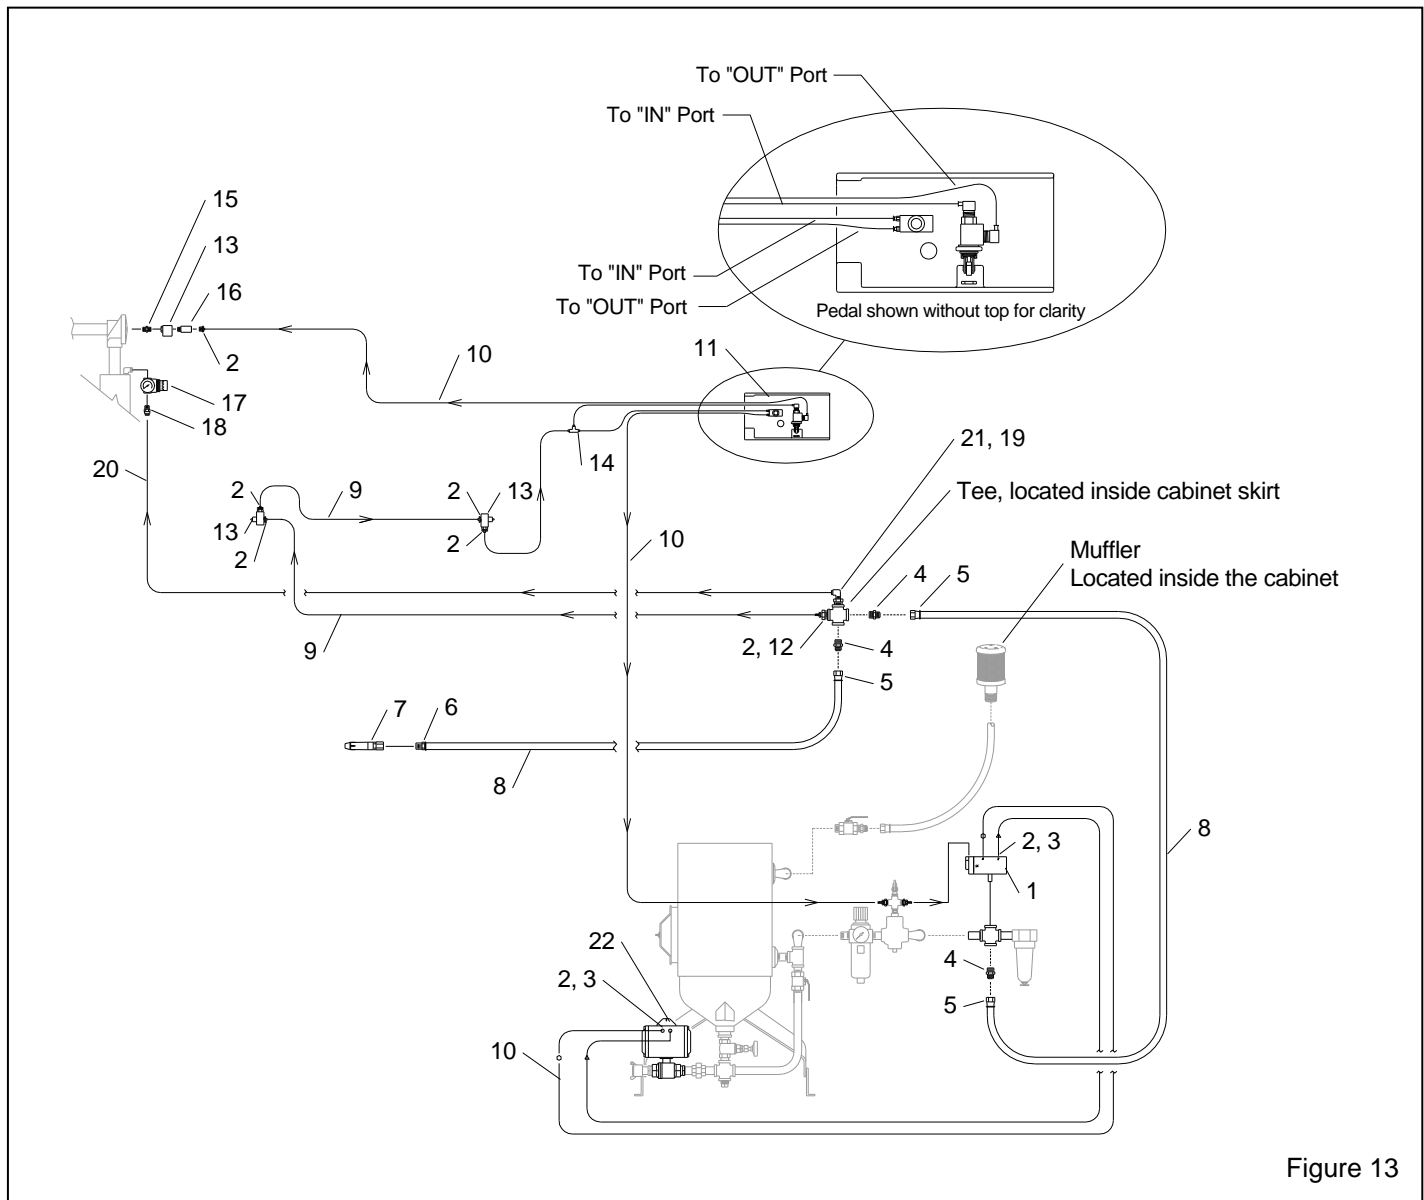

Figure 13
9.6 Controls and Plumbing Schematic, Figure 13